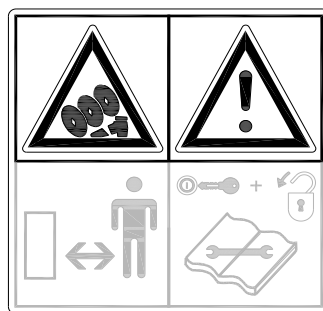
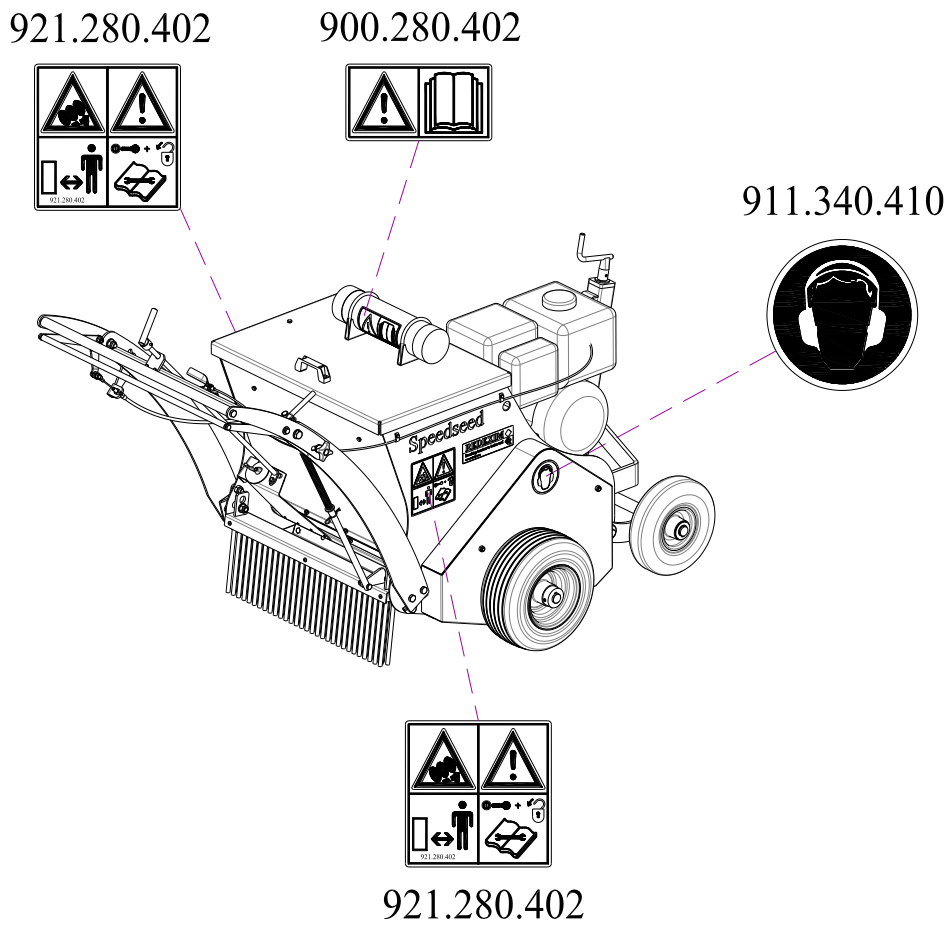

fig.3
Fig. 6
On both sides of the Speedseed Walk Behind, safety stickers (Fig. 3, 4, 5) have been applied to the sideboards and to the back cover (Fig. 6) showing these warnings. Make sure these safety stickers are always clearly visible and legible. Replace them if they are damaged.
During operation, make sure there are **NO persons in the danger area** of the Speedseed Walk Behind to prevent them from getting injured by moving parts (Fig. 3).
(7) Location of safety stickers (Fig. 6).